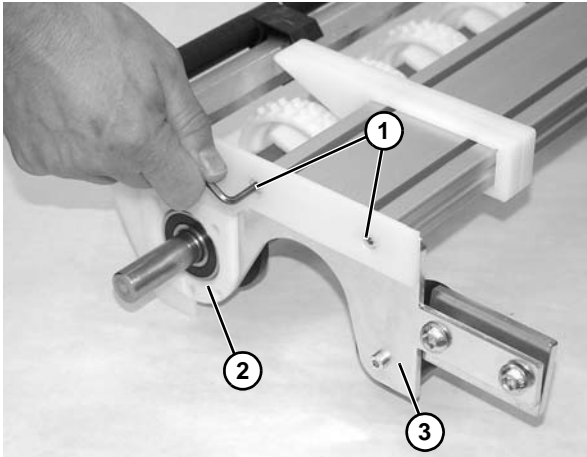

Figure 66
- Remove two socket head screws (**Figure 66, item 1**) holding nose bar spacer (**Figure 66, item 3**) and nose bar backing plate (**Figure 66, item 2**) from crossmember.